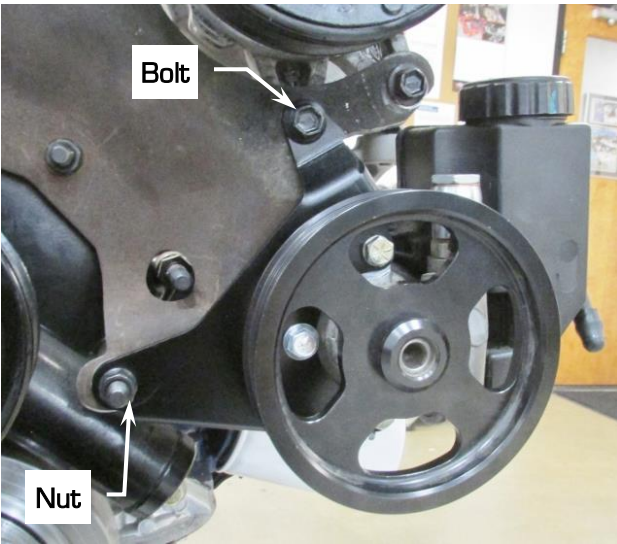
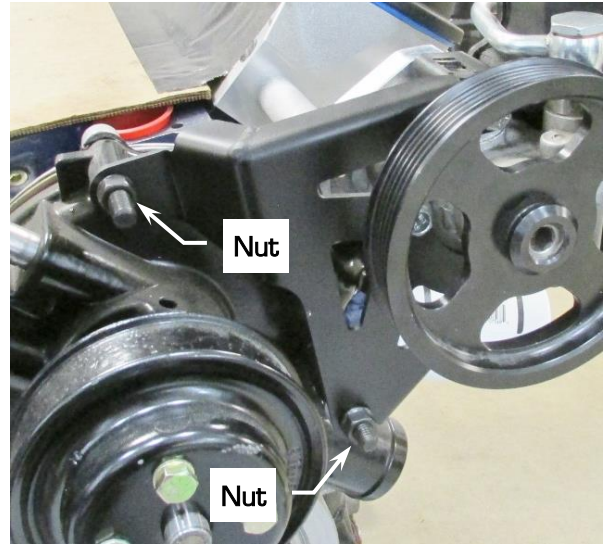

Figure 13 - PN: 092104DS
Figure 14 - PN: 092105DS
11. For engines equipped with A/C, install the factory bolt through the bracket and the A/C bracket underneath the compressor. Install the factory hex nut onto the lower front cover stud and tighten (Figure 13). For non-A/C applications, install the factory hex nut onto the upper and lower front cover stud and tighten (Figure 14).